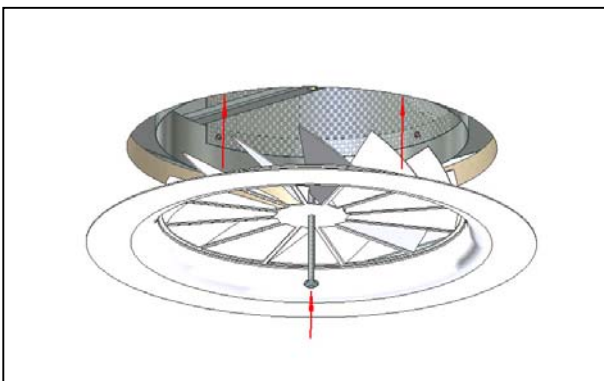
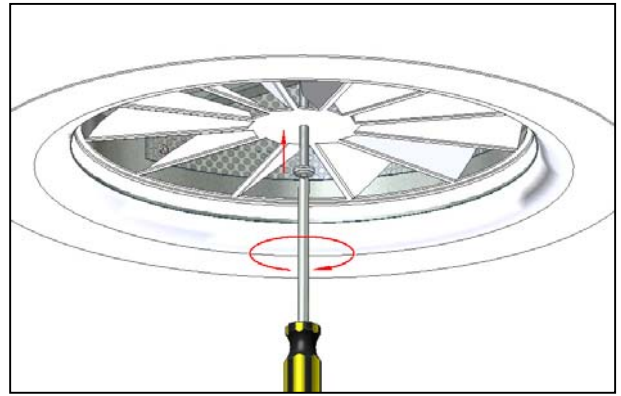

Figure 3: Offer up Diffuser to ceiling opening
Figure 3a: Screw Diffuser in place
3. Offer up the Diffuser into the ceiling opening making sure that the stack on the rear of the Diffuser is correctly located in the Plenum Mounting Collar (figure 3). Take the fixing screw from the fitting kit supplied, remove its plastic cap and secure the Diffuser to the Plenum Mounting Bar as shown in figure 3a.